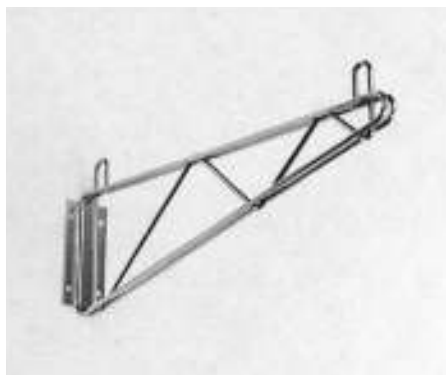

Fig. 1
4. Position the mounting plate over the rear of the shelf support so that the rear wires on the shelf support are positioned inside the offset in the plate (Fig. 1).